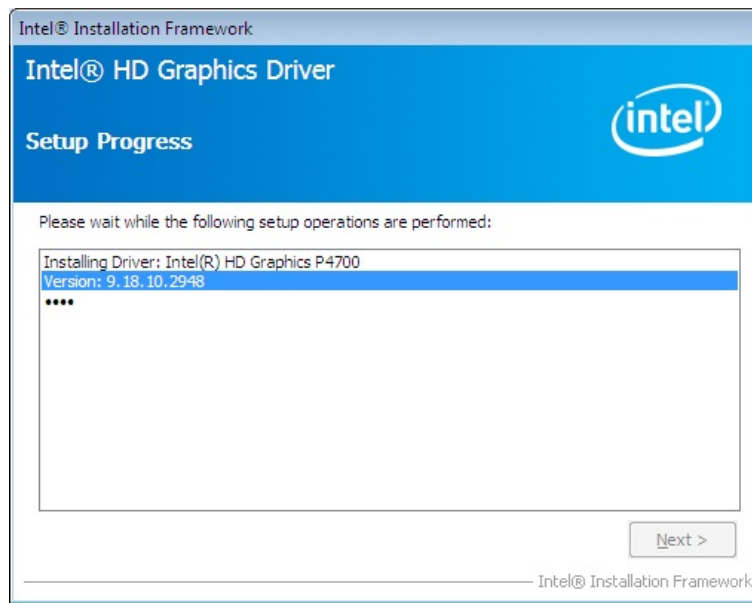

Figure 6-11: Graphics Driver Setup Operations
**Step 9:** **Setup Operations** are performed as shown in **Figure 6-11**.